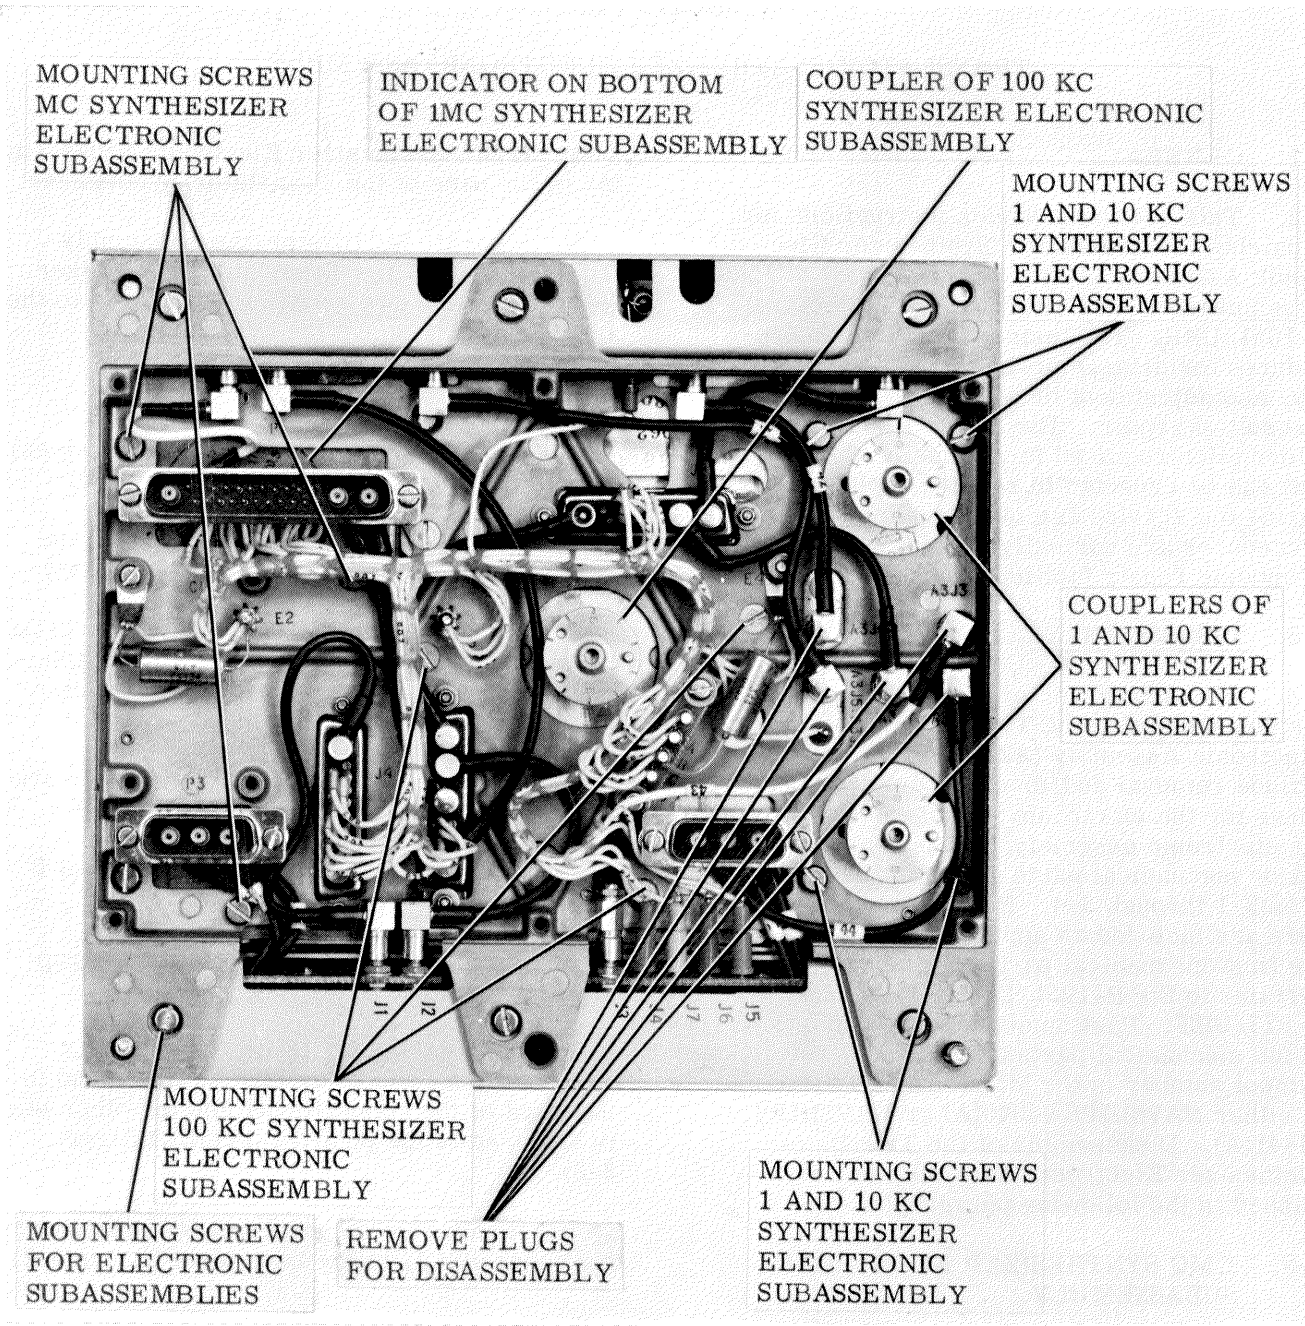

Figure 3-1. Translator/Synthesizer Electronic Assembly, Bottom View
3-4. This paragraph provides instructions for disassembling the Translator/Synthesizer Electronic Assembly (A2A6). The instructions include removal and/or disassembly procedures for the electronic subassemblies within the electronic assembly, as appropriate. Major mechanical parts are identified in figures 3-1 through 3-4. Reference symbol numbers are included as applicable. In each case, the first mechanical part (MP) number listed pertains to the R-1051/URR; the second, to the T-827/URT. Part numbers and descriptions of the mechanical parts are listed by reference symbol number in the Maintenance Parts List in either NAVSHIPS 94840(A) or NAVSHIPS 94841(A). Disassembly of the Translator/Synthesizer Electronic Assembly is accomplished in the following paragraphs.
3-6. To disassemble the major mechanical parts of the 1 MC Synthesizer Electronic Subassembly (A2A6A1), proceed as follows (figures 3-1 and 3-2):
a. Turn Translator/Synthesizer Electronic Assembly upside-down. Remove six screws securing bottom plate to Translator/Synthesizer base. Remove four screws (figure 3-1)